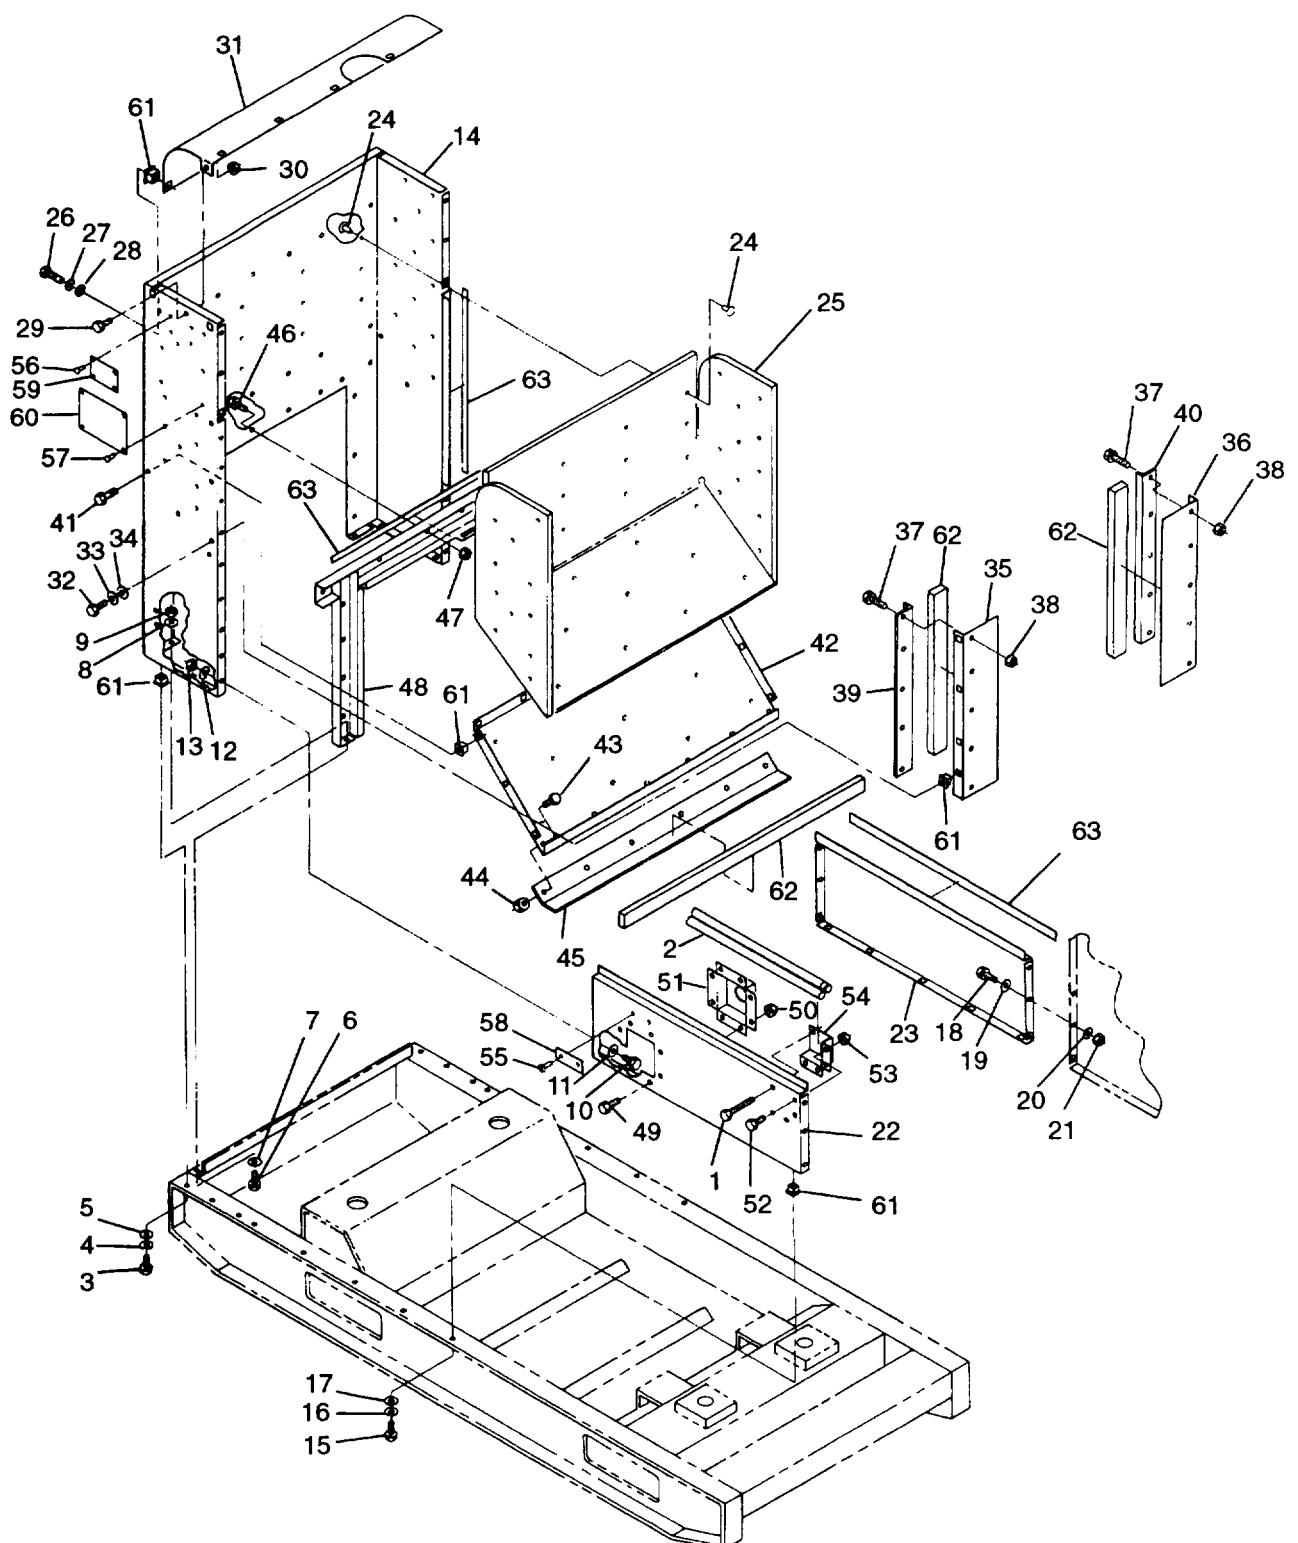

FIGURE 2-8. Generator Set front Housing Section
- f. Remove bolts (1, FIGURE 2-8) and ground rods (2) from brackets (54).
- g. Remove bolts (3), (6), and (10); flatwashers (5), (7), and (11); lockwashers (4), (8), and (12); nuts (9) and (13); and front panel (14) from generator set.
- h. Remove bolts (15) and (18), flatwashers (17) and (19), lockwashers(16) and (20), nuts (21), and side panels (22) and (23) from generator set.
- i. Remove clip halves (24) and insulation (25) from front panel (14).
- j. Remove bolts (26) and (29), washers (28), lockwashers (27), assembled nuts (30), and air deflector (31) from front panel (14).
- k. Remove bolts (32), lockwashers (33), washers (34), and panels (35) and (36) from front panel (14).
- l. Remove bolts (37), assembled nuts (38), and supports (39) and (40) from panels (35) and (36).
- m. Remove bolts (41) and panel (42) from front panel (14).
- n. Remove bolts (43), assembled nuts (44), and support (45) from panel (42).
- o. Remove bolts (46), assembled nuts (47), and support channel (48) from front panel (14).
- p. Remove bolts (49), assembled nuts (50), and slave receptacle box (51) from side panel (22).
- q. Remove bolts (52), assembled nuts (53), and brackets (54) from panels (14) and (22).
- r. If necessary, drill out rivets (55), (56), and (57); remove identification plates (58), (59), and (60).
- c. Inspect all cage nuts (61, FIGURE 2-8) for cracking or stripped threads.
- d. Inspect insulation for damage and missing clip halves (24).
- e. Inspect seals (62) and (63) for tears, looseness, and deterioration.
- c. Repaint surfaces in accordance with TM 43-0139. (F) Refer to applicable directives.
- d. Replace any cracked or stripped cage nuts (61, FIGURE 2-8).
- e. Replace damaged insulation and missing clip halves (24). Refer to Appendix D for fabrication of insulation.
- f. Replace loose or damaged seals (62) and (63).
- a. If removed, install identification plates (58, 59, and 60, FIGURE 2-8) on front panel (14) and side panel (22) with rivets (55), (56), and (57).
- b. Install brackets (54) on panels(14) and (22) with bolts (52) and assembled nuts (53).
- c. Install slave receptacle box (51) on side panel (22) with bolts (49) and assembled nuts (50).
- d. Install side panels (22) and (23) on generator set with bolts(15) and (18), flatwashers (17) and (19), lockwashers (16) and (20), and nuts (21).
- e. Install support channel (48) on front panel (14) with bolts (46) and assembled nuts (47).